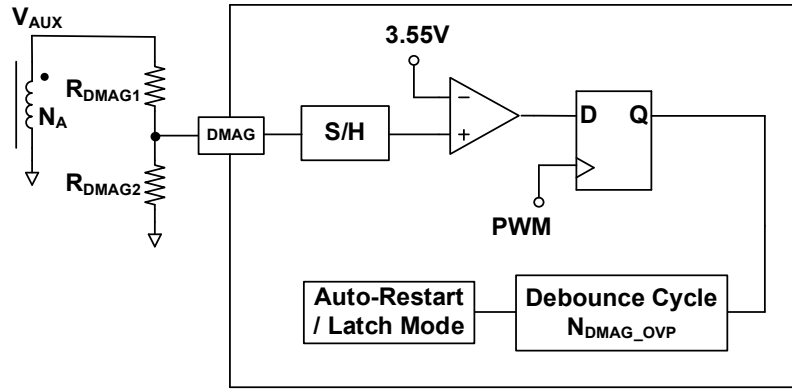

Figure 29 DMAG Over Voltage Protection Circuit
DMAG-OVP prevents server system damage when abnormal system conditions occur and cause DMAG voltage rising abnormally. Usually, DMAG over voltage protection is caused by not working properly feedback network (FB) or a fault condition of the DMAG voltage divider resistors. Figure 29 shows the internal circuit of DMAG-OVP. When abnormal system conditions occur and cause DMAG voltage to exceed V_{DMAG_OVP} for more than N_{DMAG_OVP} consecutive switching cycles, PWM pulses are disabled and the IC enters the auto-restart mode or the latch mode.